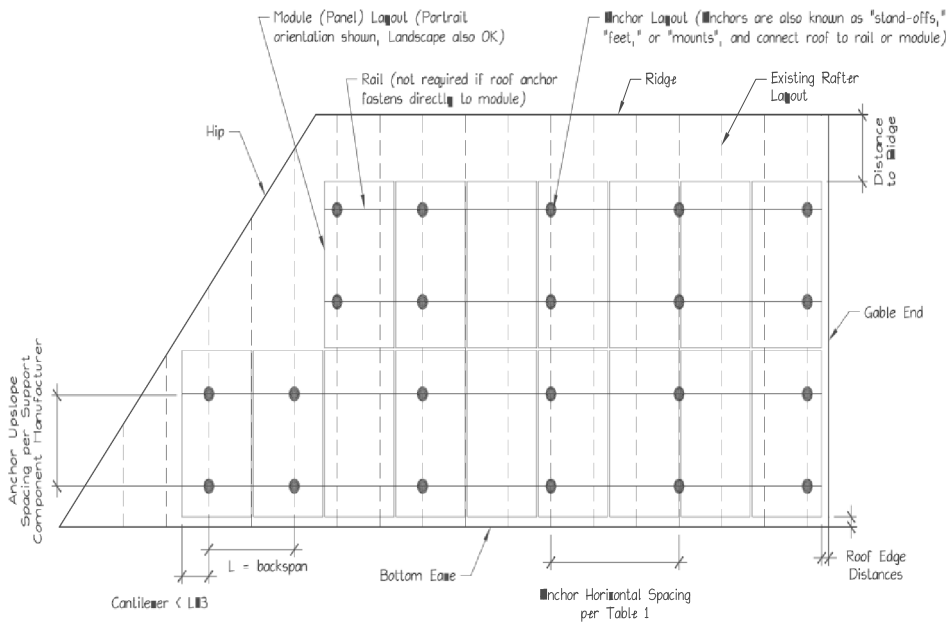

Figure 2. Sample Solar Panel Array and Anchor Layout Diagram (Roof Plan).
1. Anchors are also known as "stand-offs", "feet", "mounts" or "points of attachment". Horizontal anchor spacing is also known as "cross-slope" or "east-west" anchor spacing (see Figure 2).
E. Is a roof plan of the module and anchor layout attached? (see Figure 2)
- 1) Proposed anchor horizontal spacing (see Figure 2): _____' - _____"ft-in